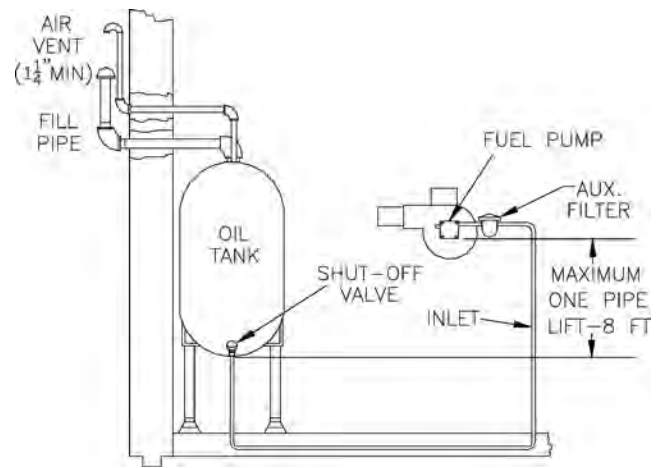

Figure 15
The single-stage fuel unit may be installed single-pipe with gravity feed or lift. Maximum allowable lift is 8 feet. See Figure 15.
- A. CONNECT Alliance™ or other Indirect Water Heater Piping as shown in Figures 15 and 16. Refer to Alliance™ or other Indirect Water Heater Instruction Manual for additional installation information.